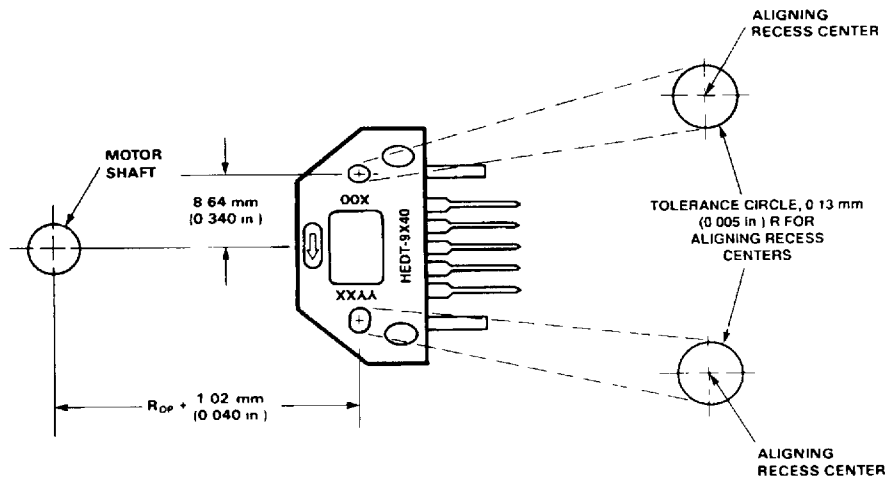
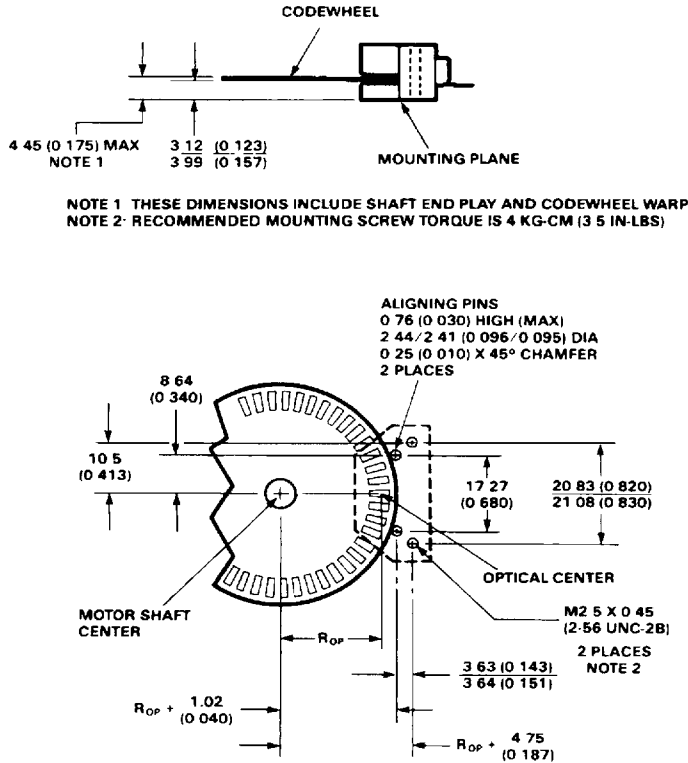

Figure 2. HEDT-9X40 Mounting Tolerance.
Figure 5. Mounting Plane Side A.
Figure 2 shows a mounting tolerance requirement for proper operation of the HEDT-9040 and HEDT-9140. The Aligning Recess Centers must be located within a tolerance circle of 0.13 mm (0.005 in.) radius from the nominal locations. This tolerance must be maintained whether the module is mounted with Side A as the mounting plane using aligning pins (see Figure 5), or mounted with Side B as the mounting plane using an alignment tool (see Figures 3 and 4).
0.13 mm (0.005 in.) Radius Tolerance Circle as explained in "Mounting Considerations." Figure 5 shows the necessary dimensions.